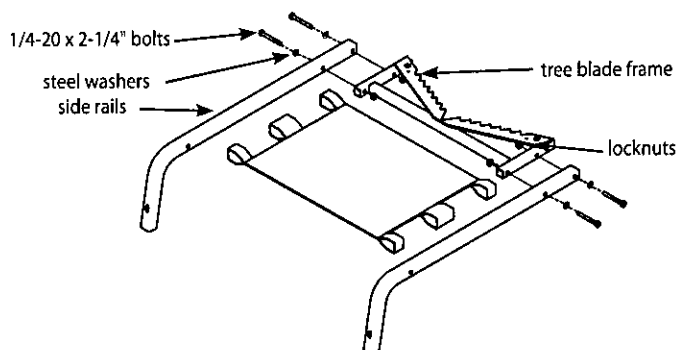

Figure 2
4. Attach the tree blade frame (SL67) to the side rails (SL69) using (4) provided 1/4-20 x 2-1/4" bolts, locknuts and steel washers. **SEE FIGURE 2. You must now tighten all nut & bolt assemblies. Be sure not to over tighten or rush tubing when tightening!**